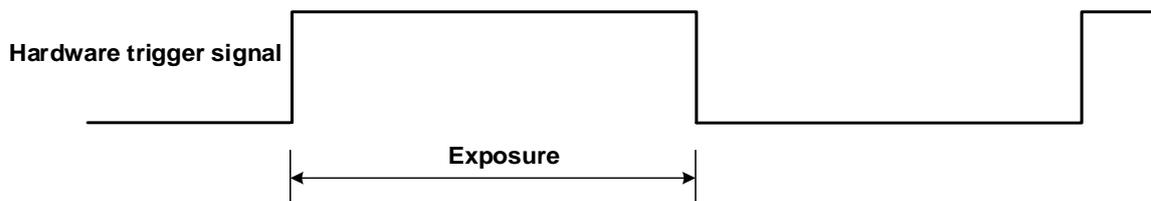

Figure 8-30 The sequence diagram in rising edge trigger of TriggerWidth exposure mode
- If rising edge triggering is enabled, exposure starts when the trigger signal rises and continue until the trigger signal falls, as shown in Figure 8-30